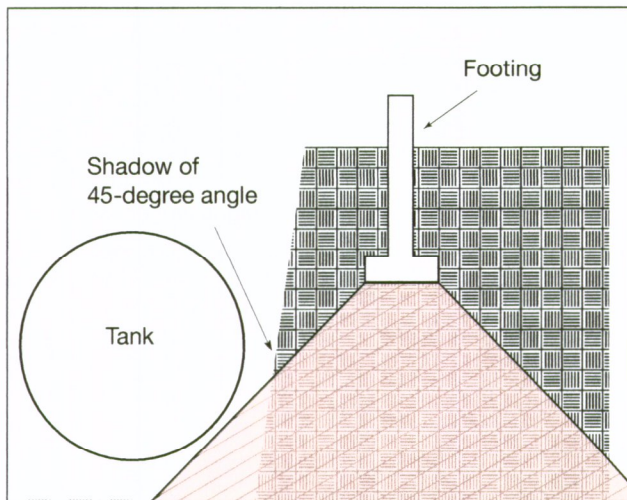

FIGURE 7-1
7.2.4. The location of a tank can be affected by the location of nearby structures. When selecting a tank site, care must be taken to avoid undermining the foundations of existing structures or new buildings to be constructed. See *FIGURE 7-1*.
7.2.5.4. The tank must not fall within the “shadow” of the 45-degree-angle line drawn from the foundation’s footing. See FIGURE 7-1.